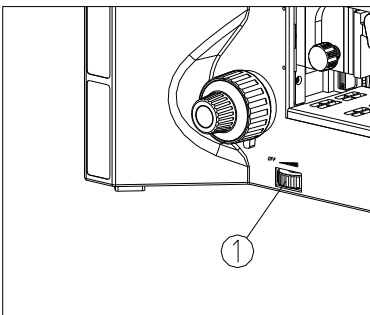

Fig.18
(1) Put through the power and turn on the main power switch to “—” (ON).
(2) For transmitted illumination, rotate the light adjustment knob ① counterclockwise until a sound of “DiDa” is heard, turn on the down illumination light source, then adjust the light adjustment knob ① until the illumination is comfortable for observation. (See Fig. 18)